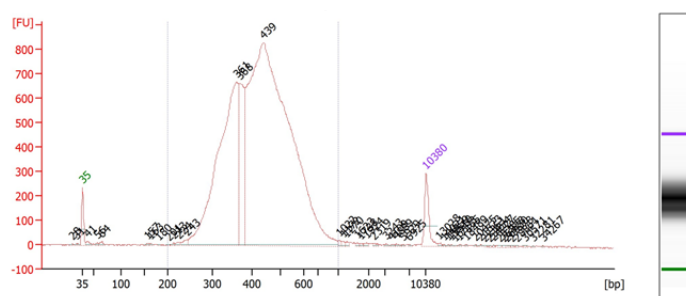

Figure 1 Agilent 2100 Bioanalyzer fragment size distribution of the purified transcriptome library
- j. Take **1 μ L** of purified PCR product and measure the concentration using Qubit dsDNA HS Kit. Use Bioanalyzer, Tapestation (Agilent Technologies), LabChip[®] GX, GXII, GX Touch (PerkinElmer), Fragment Analyzer[™] (Advanced Analytical), or other equipment based on the principle of electrophoretic separation to detect the fragment distribution of the purified PCR products. The main peak in the fragment distribution must be 200-600 bp (Figure 1). Normally, the PCR yield is greater than 100 ng.